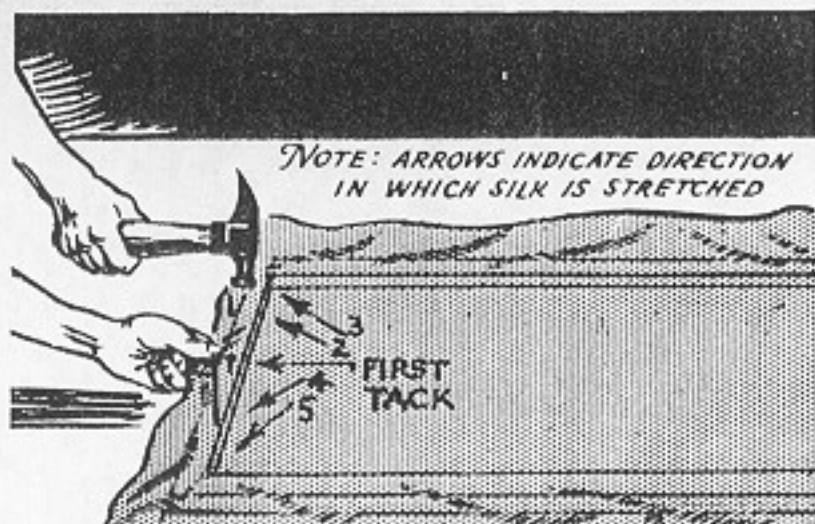

Fig. 32. Tack Silk at Opposite End
3. At the opposite end of the frame, pull the silk tight in the center. Tack the center, being sure that the weave of the silk is parallel to the sides of the frame. Pull and tack the silk as shown in Fig. 32.